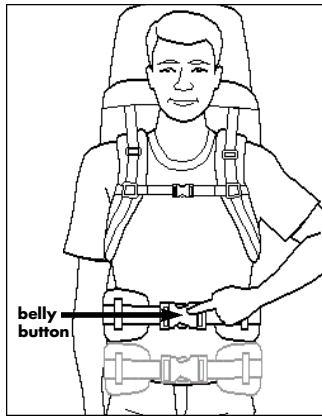

Figure 3
- NEXT** put the pack on and tighten the waistbelt. Make sure you place the waistbelt in the proper location (see Figures 3 & 4).
It is recommended to wear the belt on hip bones, just under the rib cage. If you still prefer to wear the belt low, add one to two inches to your torso length measurement. Figure 3 shows both the preferred placement of the waistbelt and an example of a belt worn low. The low position is not recommended. Once positioned correctly, tighten the belt to prevent it from sliding.